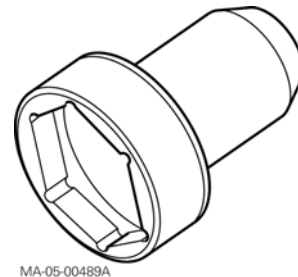

Fig. 8
- **3378010 M1:** Socket for nut - Mainshaft (Fig. 8)